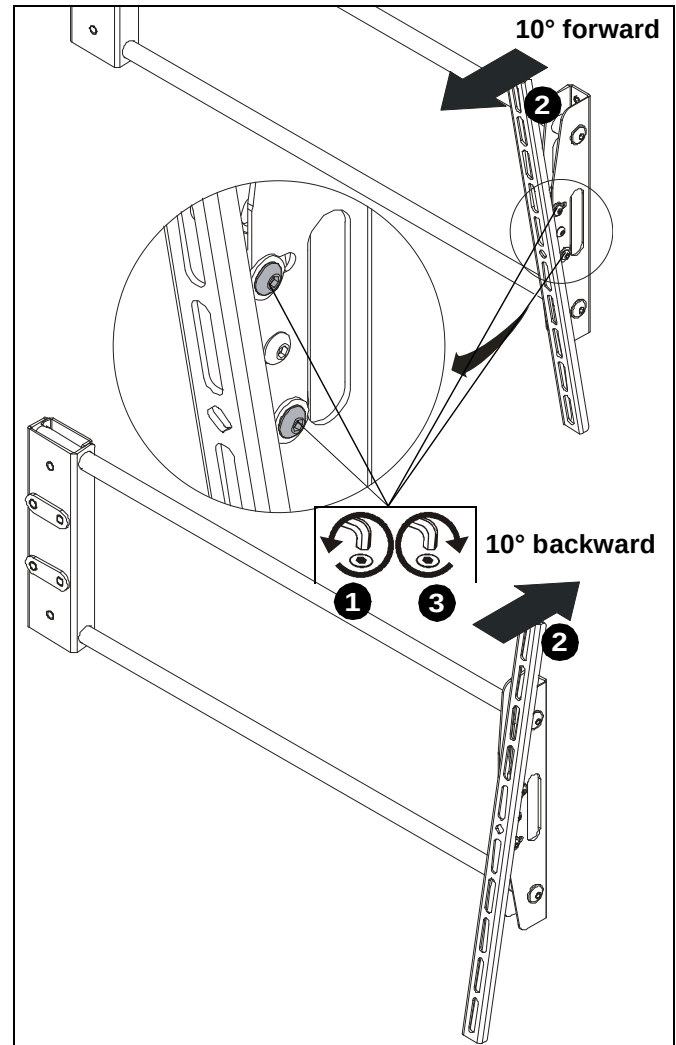

Figure 13
1. Loosen (do NOT remove) upper and lower button head cap screws (L) holding speaker brackets (A) to rail extensions (B). (See Figure 13)
2. Tilt speakers forward or backward as desired. (See Figure 13)
3. Tighten upper and lower button head cap screws (L) holding speaker brackets (A) to rail extensions (B). (See Figure 13)